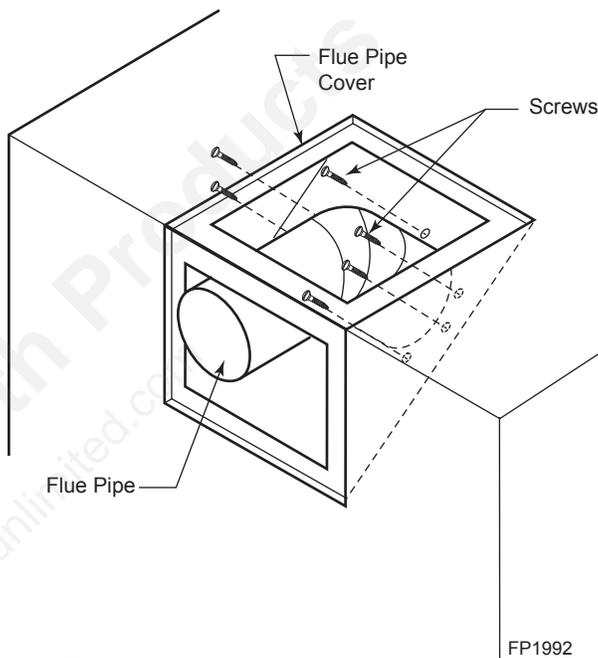

Figure 11 - Remove Flue Pipe
4. Remove eight (8) screws securing the flue pipe to the back of the intake box and remove the pipe and gasket. *Figure 11*